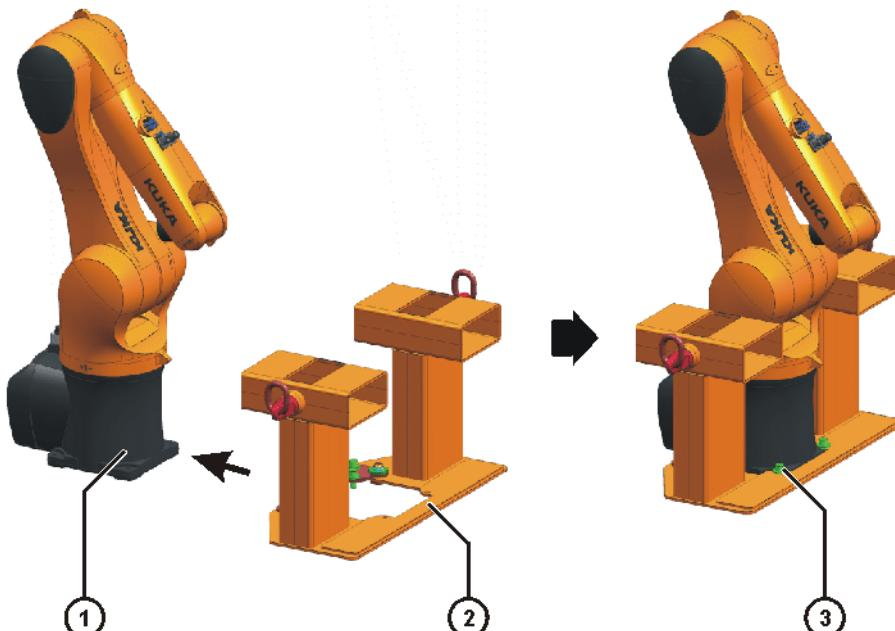

Fig. 8-3: Pushing on the Load Lifting Attachment and fastening it at the front
2. Carefully push the Load Lifting Attachment onto the base frame of the robot from the front (>>> Fig. 8-3 ).